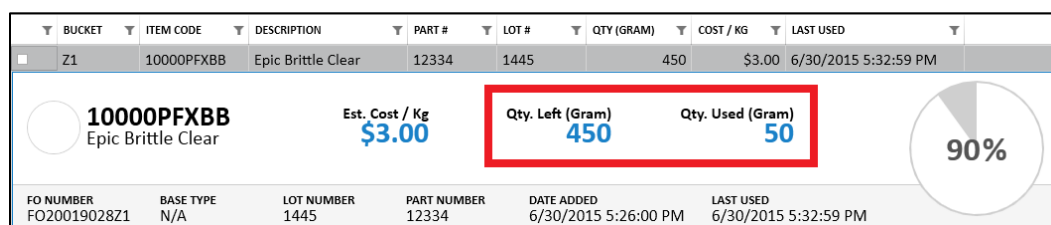

Figure 89 Confirmation of inventory decrease
4. After clicking **“OK”** your item quantity will update accordingly as well as update the Amount Used. (Figure 89)